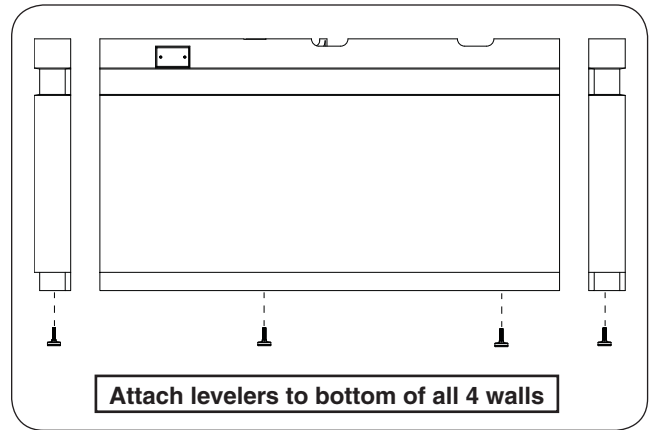

Fig. 7-1 Attach levelers
2. Carefully lay the front wall down and attach the levelers. Repeat for the rear wall and two side walls. See Fig. 7-1.